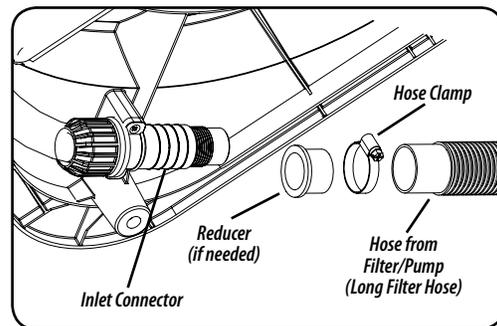

Figure 2
- d) Locate the inlet connector and the long filter hose. Attach the long filter hose between filter outlet (the port where the pool return hose was previously connected) and the inlet connector (located at corner of heater) using the included hose clamps (see figure 2).
NOTE: depending on the size of your hose, the 1¼"-1½" reducer may need to be used. Insert the reducer inside of the long filter hose and attach using hose clamp. Apply a small amount of silicon based lubricant to the outside of the side connector to allow an easy fit (see figure 2).